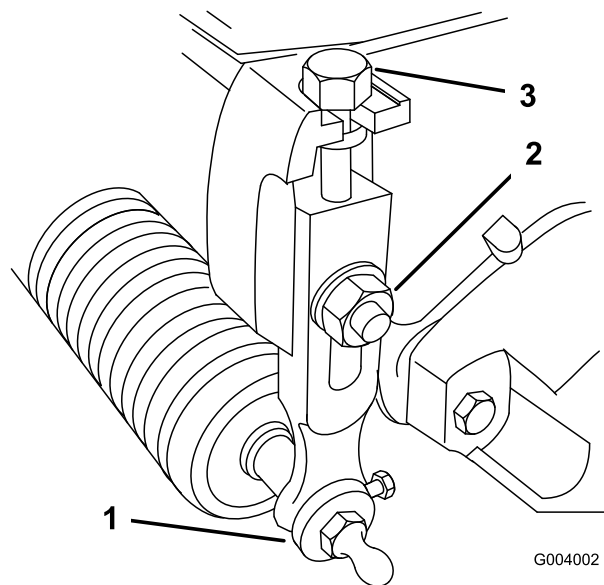

Figure 8
1. Loosen locknuts securing height-of-cut arms to cutting unit side plates (Figure 8).